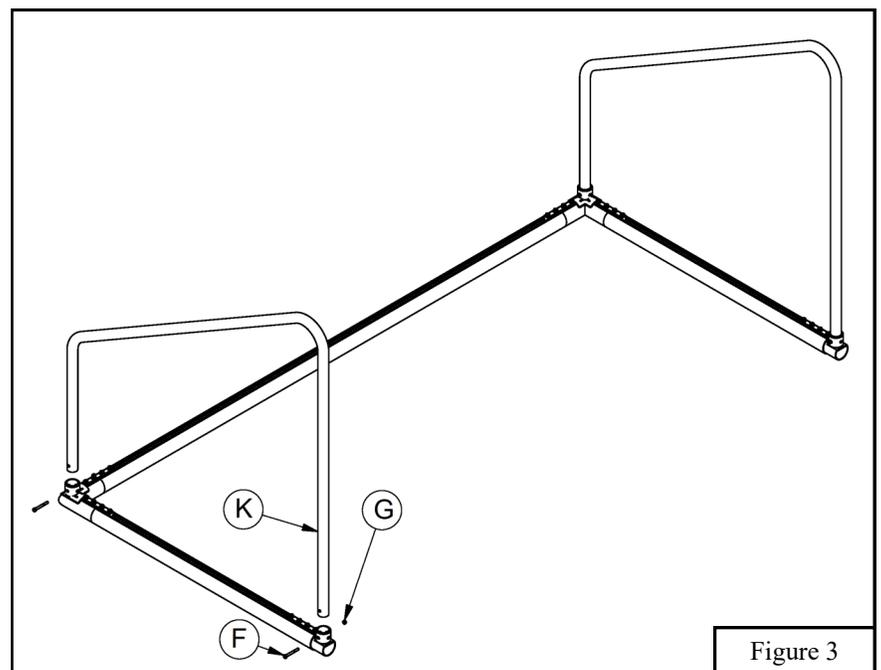

Figure 3
5. With the crossbar/upright assembly still lying on the ground insert the *Backstay* (K) into the two backstay sockets. You may need to apply minor pressure to the goal assembly to align both ends. Use  $5/16'' \times 2 \ 3/4''$  *Hex Bolts* (F) and  $5/16''$  *Nylon Lock Nuts* (G) to secure. See Figure 3.